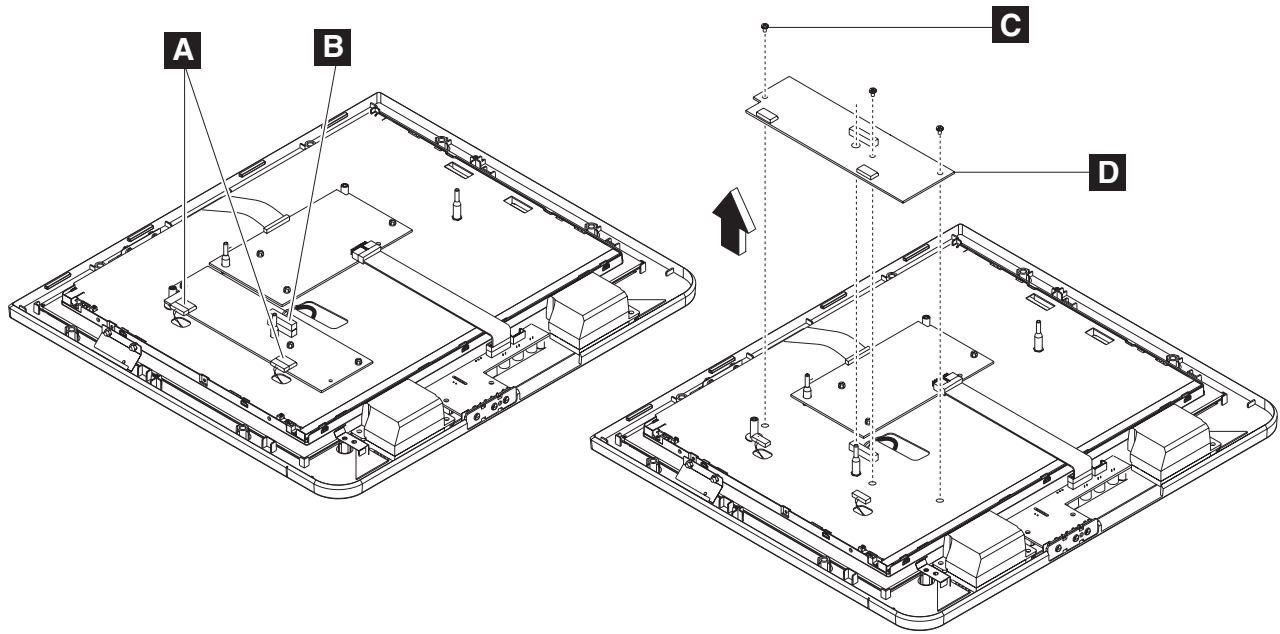

Figure 28. Removing the backlight inverter card
4. See Figure 28. Disconnect the following from the card:
- Back light cables (2) ( **A** )
- LCD backlight connectors (2) (see **A** in Figure 28 on page 41)